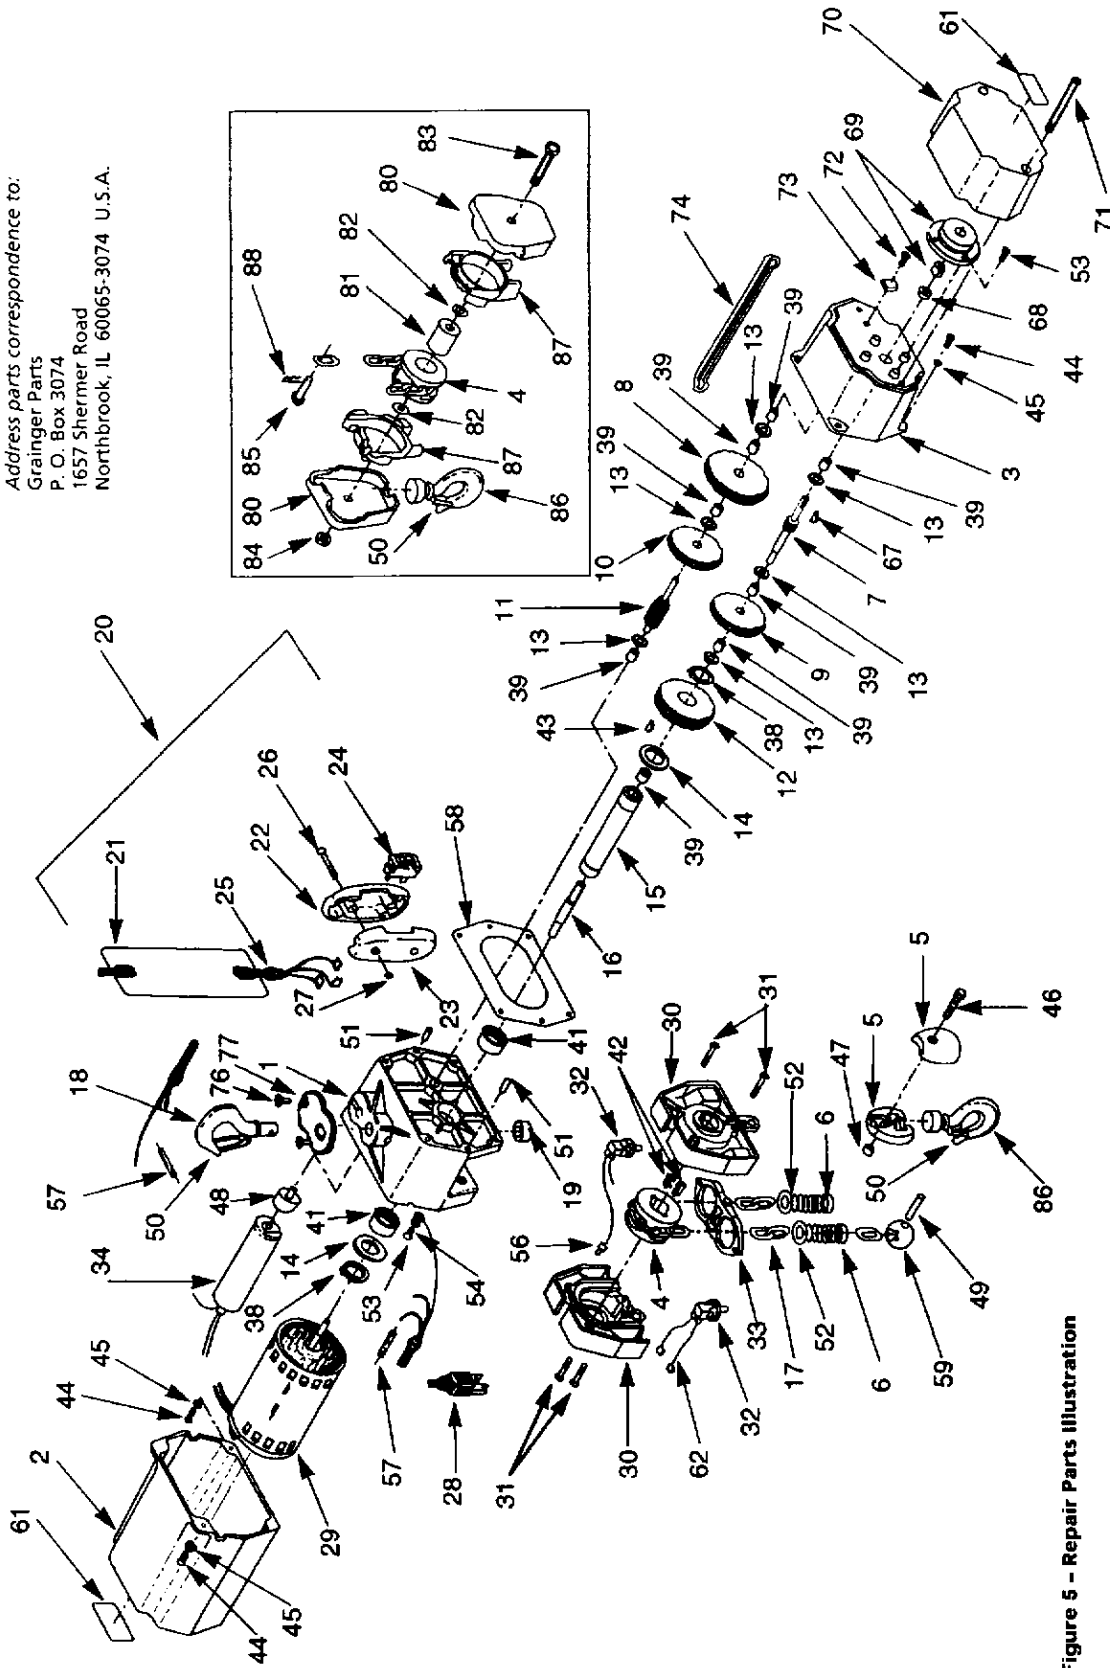

Figure 5 - Repair Parts Illustration
2. Apply a small amount of grease to the bore of the idler sheave. (Fig. 5, Ref. No. 4) in the bottom block.
2. Remove brake cover (Fig. 5, Ref. No. 70).
When the brake is not operating properly, replace the entire brake assembly (Fig. 5, Ref. No. 69).